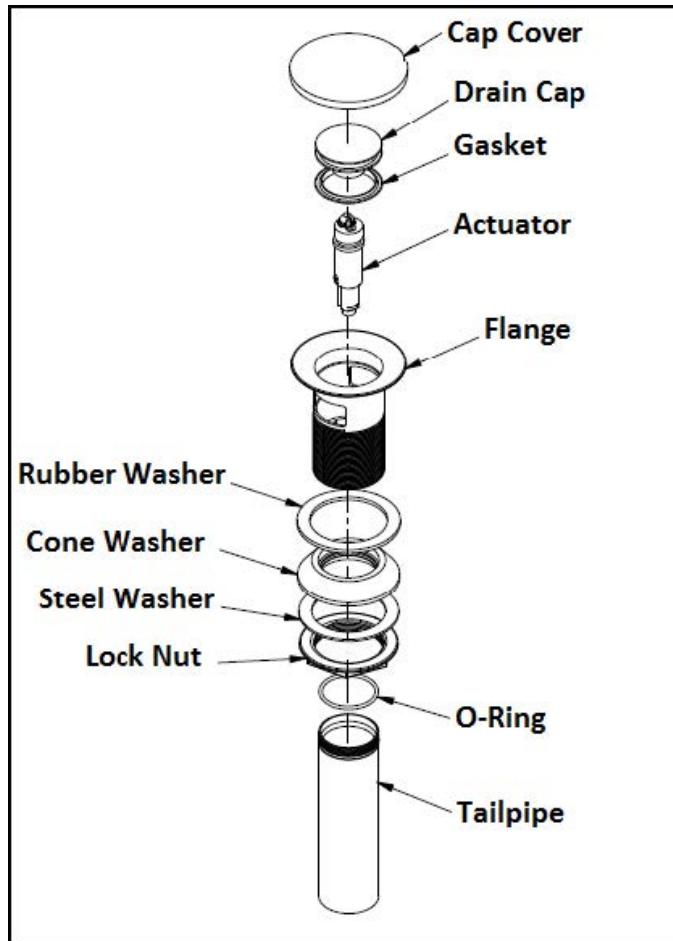

Figure 3
3. Drain assembly not included with I203-I. Remove FLANGE, RUBBER WASHER, STEEL WASHER, and discard drain CAP COVER from drain assembly. Place RUBBER WASHER into FLANGE. Then, place FLANGE through the sink hole (Clear silicone may be used in place of RUBBER WASHER). From underside of sink, install CONE WASHER, STEEL WASHER, and LOCK NUT into FLANGE. Thread LOCK NUT firmly. Thread TAILPIPE to FLANGE assembly and assemble TAILPIPE to existing P-Trap. **See Figure 3.**